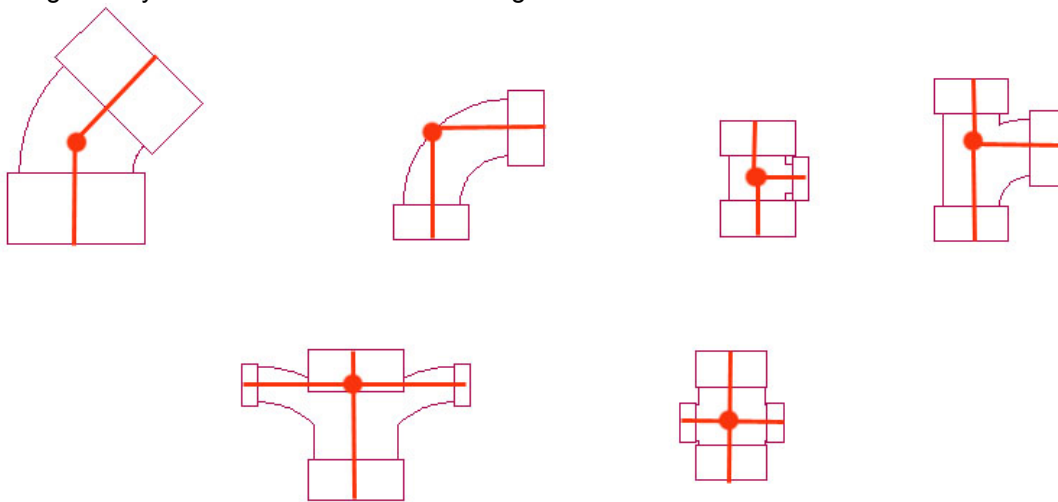

Figure 1: Trim Lengths and Placement Point for Pipe Parts
- a. Points 2 to 5 and 3 to 5 (as shown in Figure 1)